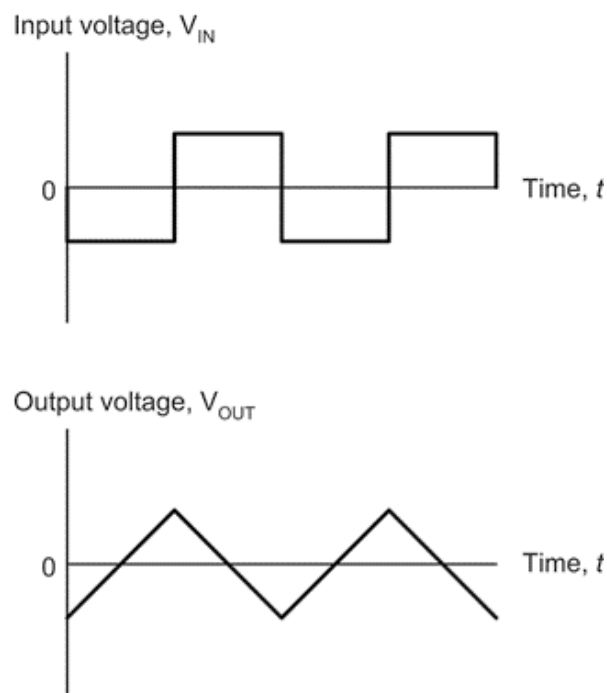

Figure 1.45 Typical input and output waveforms for an integrator
- Typical input and output waveforms for an integrator are shown in Fig. 1.45.